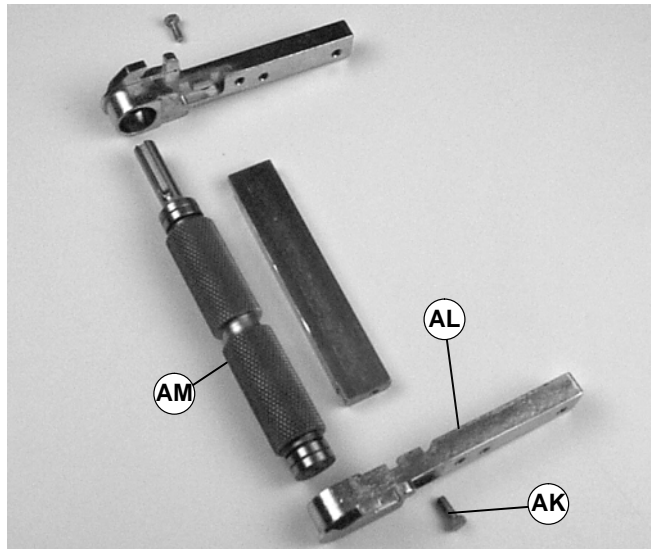

Figure 29
5. Remove screw (AK of Figure 29).